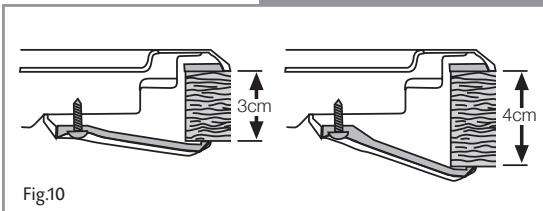

Fig.10
3. Secure the hob to the worktop using the fixing brackets and screws supplied, as shown in Fig.10. Remove any excess sealant after tightening the brackets. Do not over-tighten the fixing brackets.